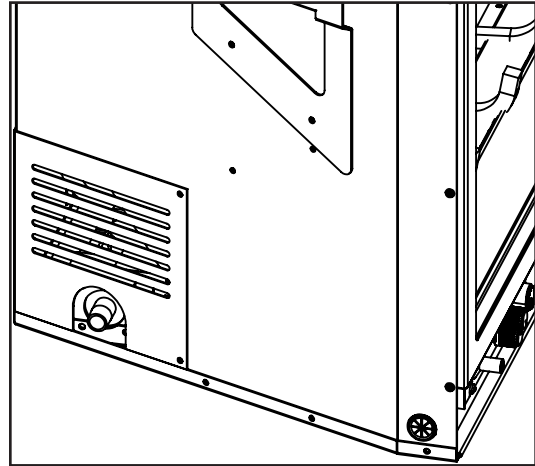

Figure 25: 3/8" NPT Male Pipe Nipple with Cover Attached.
- A 3/8" NPT male pipe nipple (supplied with the unit) will have to be turned into the valve at the lower left side rear of this fireplace (see Figures 25 and 26). Consult the local authorities for local codes or use the CAN/CGA B149 (1 or 2) installation code in Canada. In the US, gas installations follow either local codes or the current edition of the National Fuel Gas Code ANSI Z223.1.